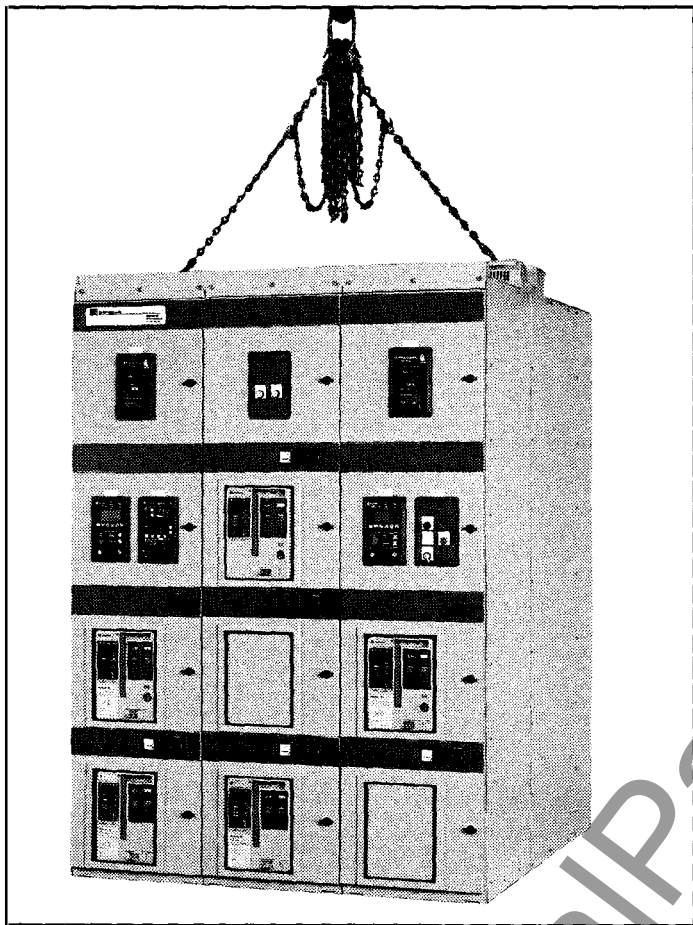

Figure 2-2 Indoor Assembly Lifting Method
**Indoor Assemblies:** For ease of handling by crane, each indoor shipping group is equipped with a lifting angle that extends the length of the shipping group. The lifting angle is designed and placed such that a spreader bar is not required between the lifting cables (Figure 2-2). Spreader bars can, however, be used if the overhead space is limited for crane use.